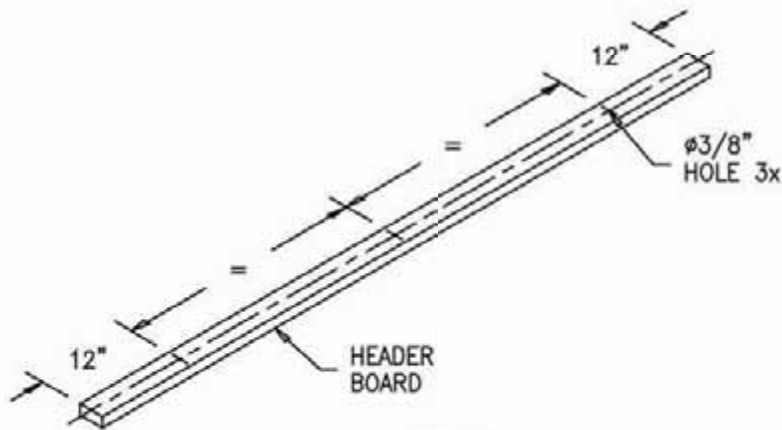

FIG. 7
- Lay rear header board on floor and mark mounting holes with one (1) at center and one 12" in from each end (fig. 7).